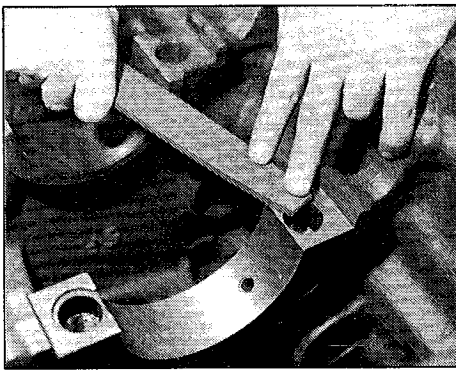

FIG. 4 FILING FLUSH
10. Remove hold-down bolts and file excess material on the repair bushing flush with the parting surface. (Fig. 4).